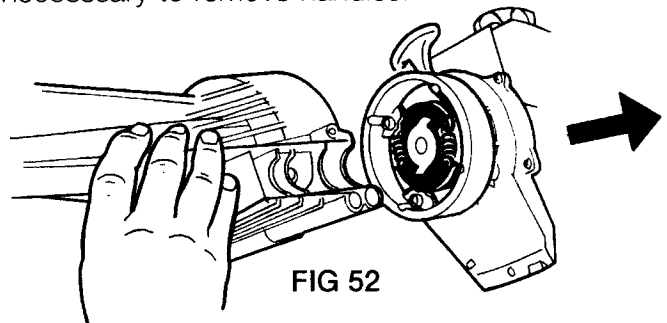

FIG 52
2. Pull engine away from body (Fig. 52). It is **NOT** necessary to remove handles.